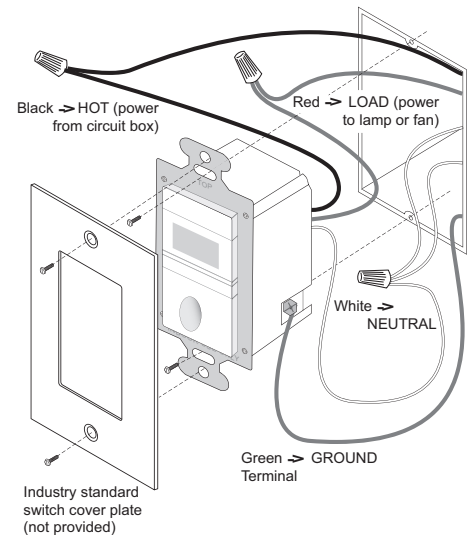

Fig 4: Switch orientation, wire connections and wall box assembly
9. Twist the existing wires together with the wire leads on the time switch as indicated in the drawing. Cap them securely using the wire nuts provided. See Fig 4.